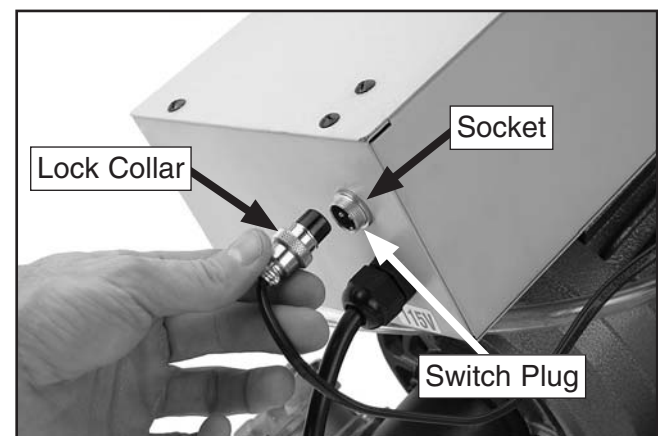

Figure 2. Switch plug connection.
2. Connect the handle switch plug to the control box by aligning the plug with the socket, then threading the lock collar (**Figure 2**).